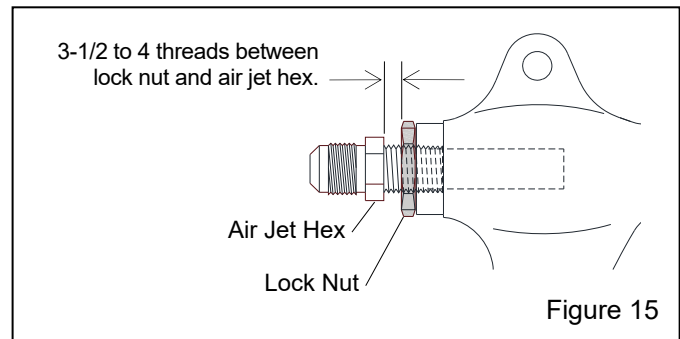

Figure 15
5.2 Air Jet Adjustment – Figure 15